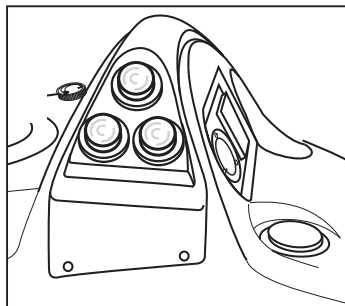

Fig. 19
To stop the appliance, turn the steam and suction control switches on the handle (19) to the off position; move the switches on the appliance to the off position (Fig. 19) and disconnect the plug from the socket.